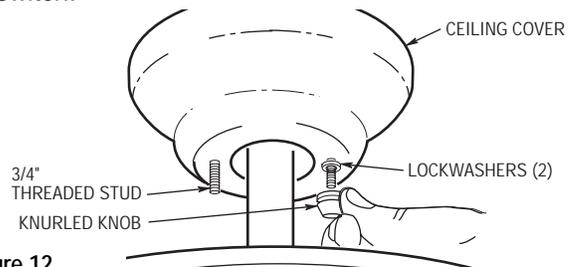

Figure 12
3. Lift the ceiling cover up to the threaded studs and turn until studs protrude through the holes in the ceiling cover (Figure 12).
4. Secure the ceiling cover in place by sliding lockwashers over the threaded studs and installing the two knurled knobs (supplied). (Figure 12.) Tighten the knurled knobs securely until the ceiling cover fits snugly against the ceiling and the hole in the ceiling cover is clear of the downrod. Your fan is now wired to be turned on and off from the fan switch.